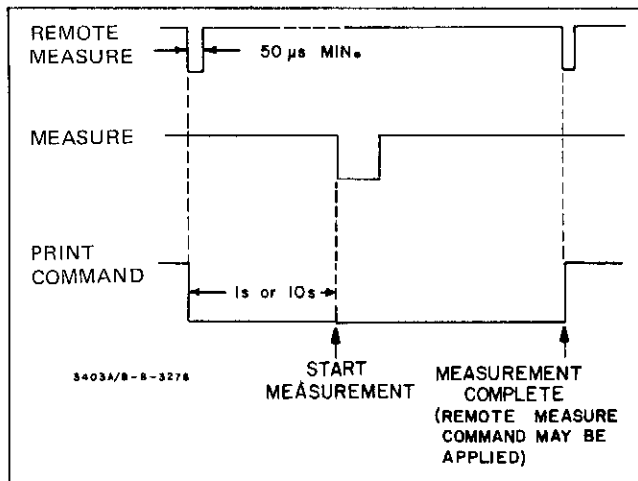

Figure 3-3. Remote Measure Sequence.
**3-25. Delayed Measure Mode.** A HIGH signal (or open circuit) at the Measure Mode connection, J3 Pin 7, selects the delayed measure mode of operation. In this mode, the Remote Measure command is delayed for a length of time determined by the 3403C response time programmed. See Figure 2-5 and Paragraph 3-51. If Fast response time is selected, the delay is a minimum of 1 second, and 10 seconds minimum for Slow response time. The reading rate, then, is determined by the response time selected. A Remote Measure command may be applied following the second transition of the Print Command or Data Flag signal, which indicates that the previous measurement has been completed. A Remote Measure command applied between the first and second transition of these signals will have no effect. The measurement sequence is illustrated in Figure 3-3.